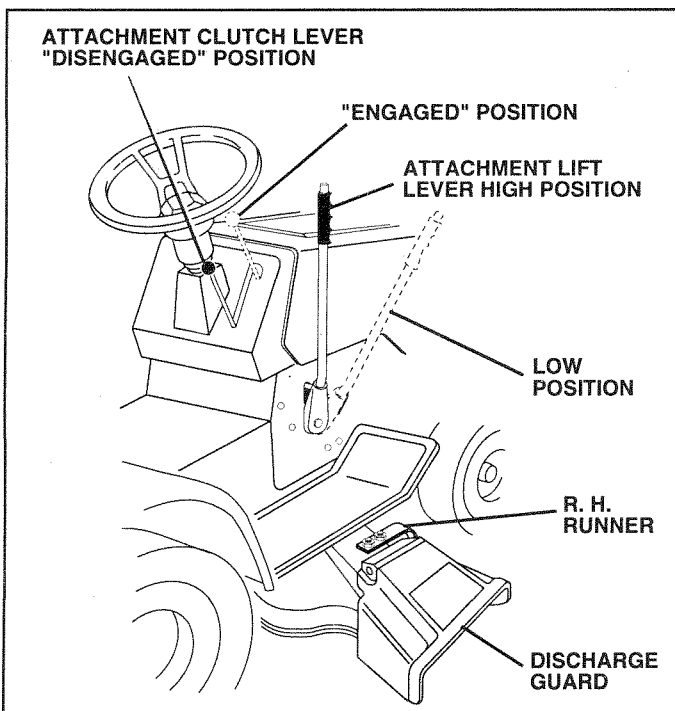

FIG. 7
TO OPERATE MOWER (See Fig. 7)
- Use the runner on the right hand side of mower as a guide. The blade cuts approximately an inch outside the runner (See Fig. 7)